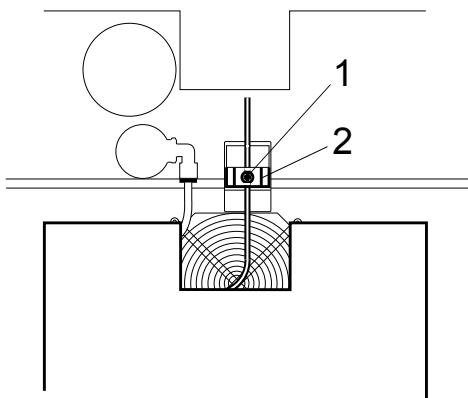

Fig. 5 Indicator lamp connector
- 3 Unscrew the Phillips screw (Fig. 5/1) from the connector.
- 4 Pull out the connector (Fig. 5/2).